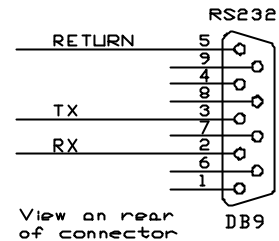

Figure 6
3.8.2 The connector pin allocations are given in Figure 6.